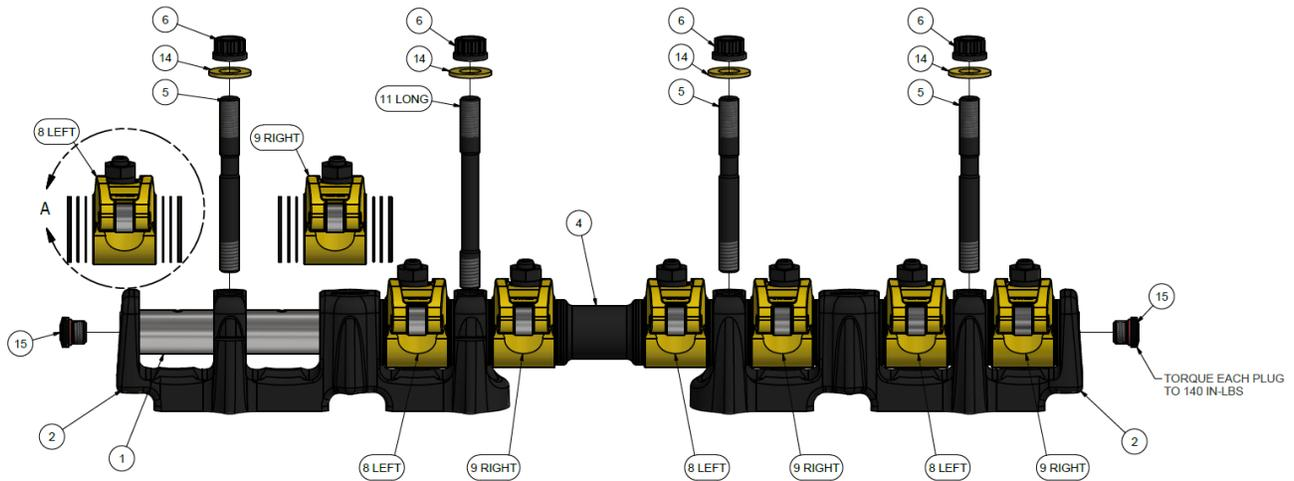

Fig. 1 - Rocker Assembly
Note: Each kit comes with two of the rocker assemblies shown in Fig. 1.
5. Be sure that the rocker arms are in the correct left-right order (refer to **Fig. 1**), and that the spacing of the rockers is appropriate for your application. If the incorrect left-right order is used, the roller tip will not be centered on the valve. The arrangement of the rockers can be adjusted by simply sliding the center shaft out of the assembly and rearranging them as needed.